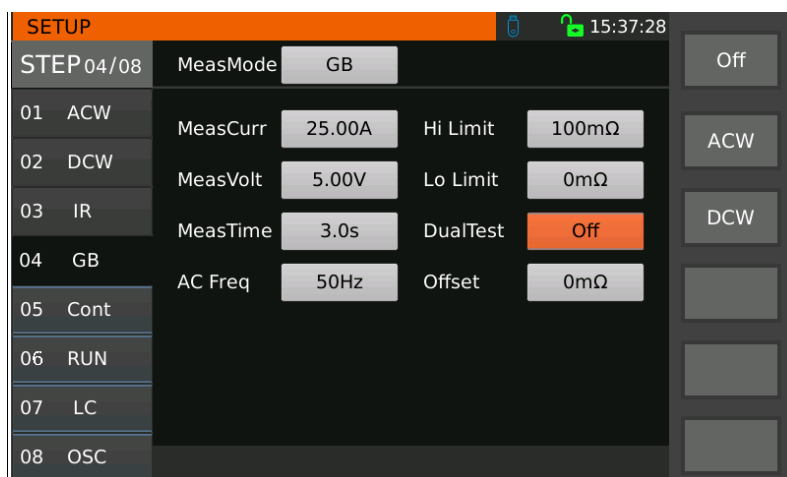

Figure 3-22 Ground Resistance Synchronization Test Setup
**Synchronized Test: Ground** resistance test and voltage withstand test output test at the same time. The option setting is categorized into Off, AC Withstand Voltage, and DC Withstand Voltage, as shown in Figure 3-22. If the setting is AC Withstand Voltage, the grounding resistance and AC Withstand Voltage will be tested at the same time during the test; if the setting is DC Withstand Voltage, the grounding resistance and DC Withstand Voltage will be tested at the same time; and if the setting is Off, this function will be turned off.